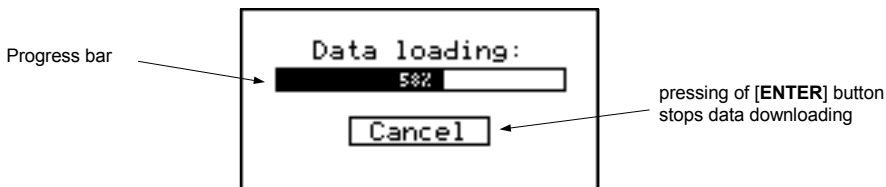
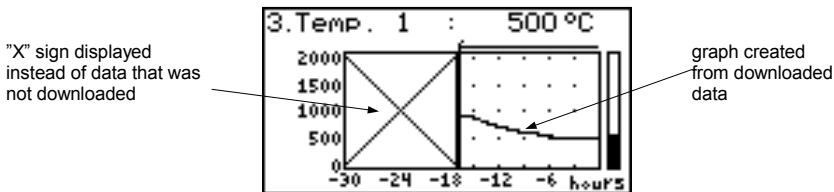

Fig. 6.17. Message displayed when loading data to be displayed on the graph
Fig. 6.18. Display in "Graph" mode in the case where data download was stopped.
-  If downloading the data (recorded measurement results) necessary for displaying the graph takes more than 1 second an appropriate message is displayed (Fig. 6.17). Pressing [ENTER] will stop the data downloading process and display a graph made on the basis of the data downloaded so far. "X" will be displayed instead of data that was not downloaded (Fig. 6.18).